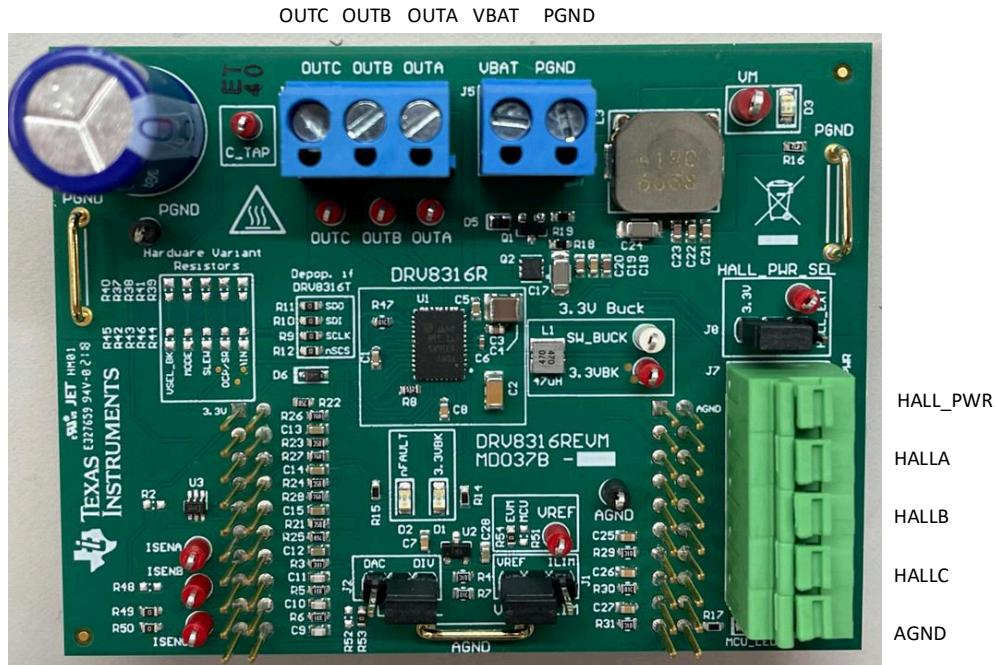

Figure 4-6. Connections From Motor to DRV8316xEVM
2. Connect the motor phases to OUTA, OUTB, and OUTC. If using the Hall sensors, connect them to five-pin connector J7 as Figure 4-6 shows. Select 3.3 V or HALL_EXT_PWR on jumper J8 to select Hall power source.
Figure 4-6 shows the connections made to the DRV8316xEVM to spin a three-phase sensored Brushless-DC motor.